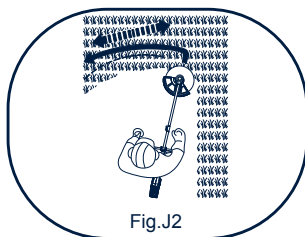

Fig.J2
- 4) Move the product with slow and regular horizontal movements from the right to the left and then lead it back to starting point before trimming the next row. (See. Fig. J2)